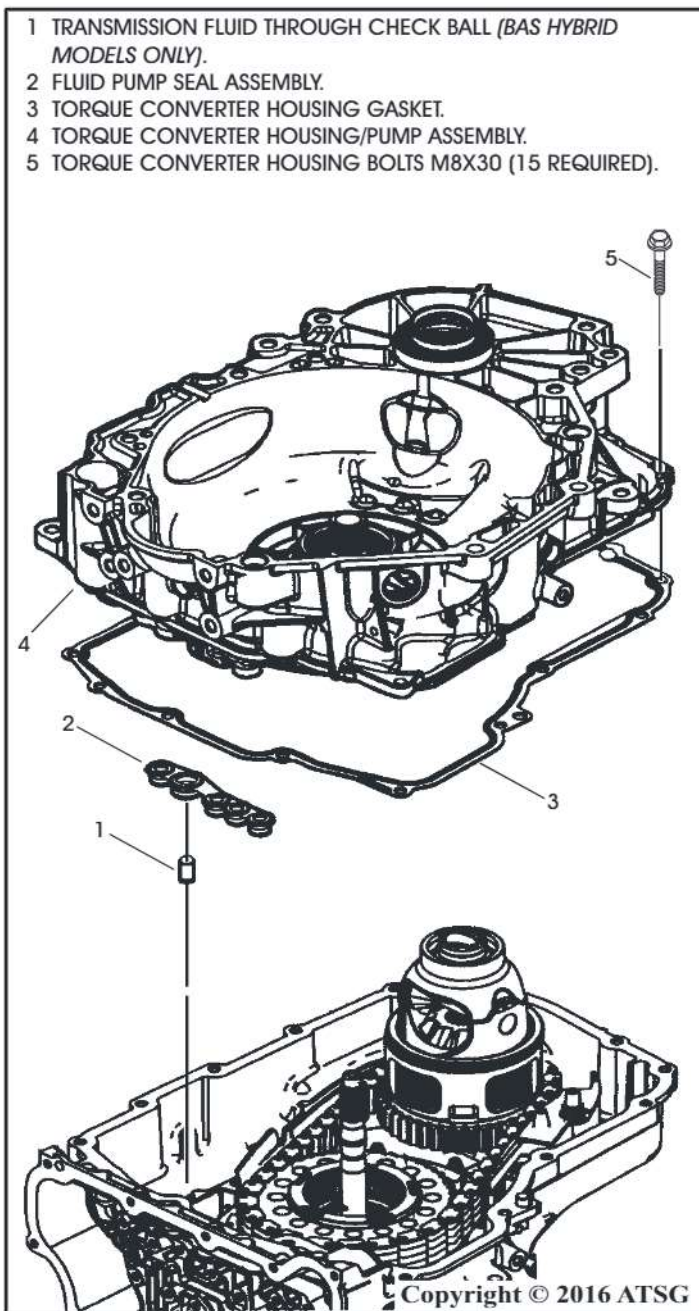

Figure 58
30. Remove the 15 torque converter to transmission case bolts as shown in Figure 58.
31. Remove and discard the torque converter housing gasket shown in Figure 58.
32. Remove the torque converter housing which also contains the fluid pump assembly as seen in Figure 58.
33. Remove and discard the fluid pump seal assembly shown in Figure 58.
34. Inspect the transmission fluid through check ball capsule as shown in Figure 58 (BAS Hybrid Models Only).